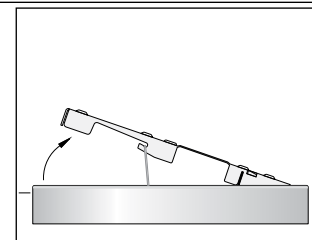
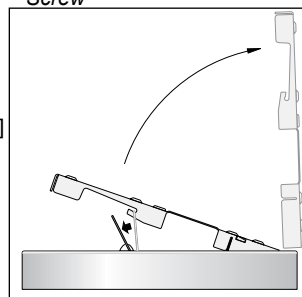

Figure 2: Canopy Removal
Figure 3: Torsion Spring
2. Open the mounting bracket fully by slightly tilting the torsion spring back till completely removed from hook. [Figure 2] [Figure 3]